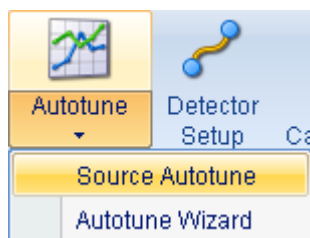

Figure 4-57. Drop-down Source Autotune
3. In the **Wizard** group, click  (arrow next to or below Autotune) to open the drop-down menu, see Figure 4-57.